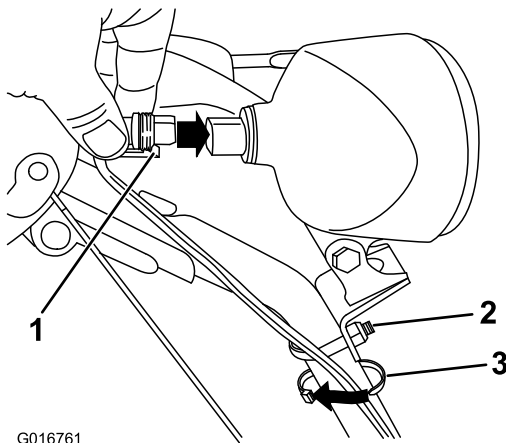

Figure 18
1. Insert the wire connector on the loose end of the wire straight into the back of the headlight until it is securely in place (Figure 18).
**Note:** Ensure that the plastic clip on the wire connector is on the bottom (Figure 18).
2. Secure a cable tie (from the loose-parts bag) around the wire and the handle about 2.5 cm (1 inch) below the U-bolt (Figure 18).